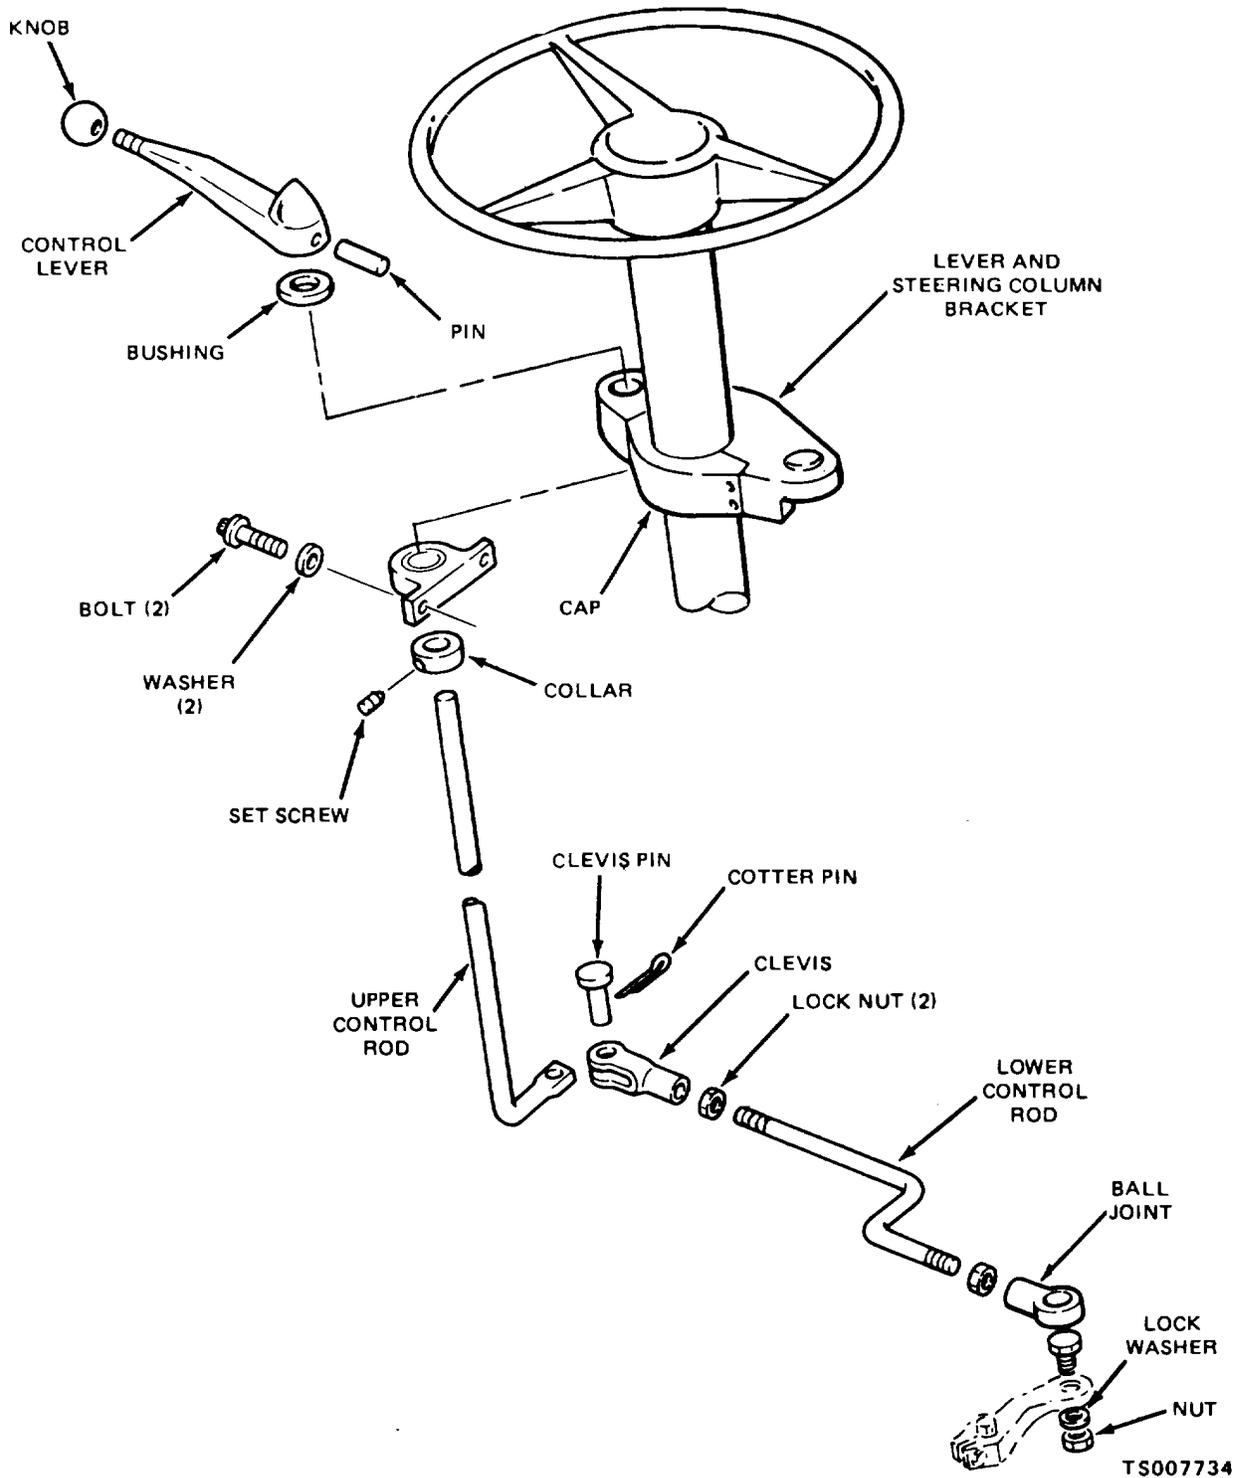

Figure 4-61. Directional Shift Lever and Linkage
- a. Adjust the directional control lever and linkage as shown in figure 4-61.